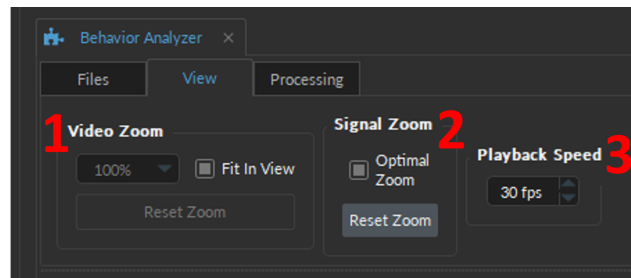

Figure 15.5: Behavior Analyzer, View tab
The **View** tab (Fig. 15.5) sets the visualization parameters for the **Video View** and the **Signal View**. The following parameters are included within the tab:
1. The **Video Zoom** (Fig. 15.5, 1) sets the image magnification factor.
2. The **Signal Zoom** (Fig. 15.5, 2)
3. The **Playback Speed** (Fig. 15.5, 3) sets the frame rate (in FPS) that the video and signal data will be run once the user selects **Play** from the **Video View**.